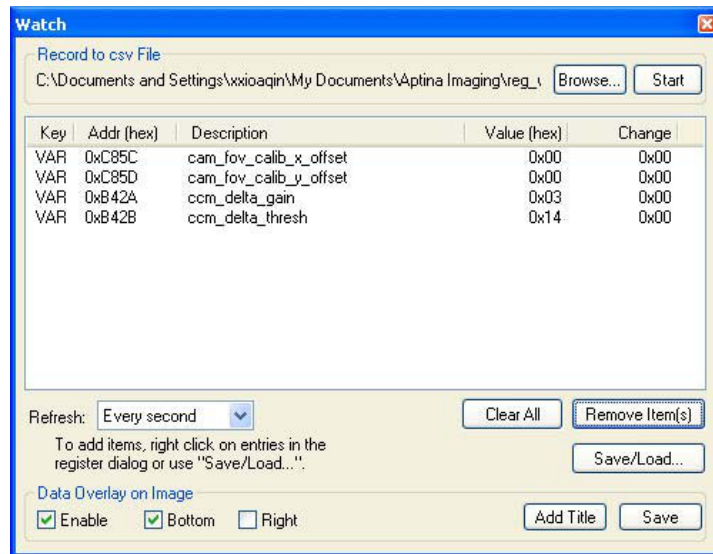

Figure 25. Watch GUI to Enable Register or Variable Overlay on Image
- On Watch GUI as shown in Figure 25, check *Enable* and the location to show the registers/variables on the image in Data Overlay on Image section.